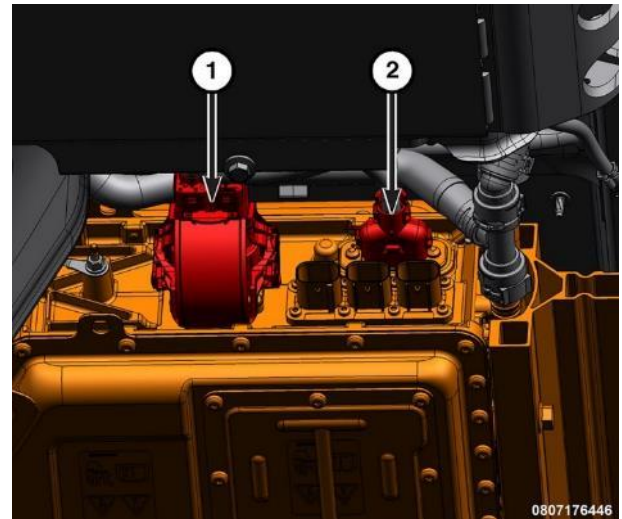

Figure 44 – HV Battery - Primary
- 26. Disconnect and install protective covers on the high voltage cable connector (Figure 44).
- 27. Disconnect and install protective covers on the low voltage wire harness connector (Figure 44).
64. Connect the high voltage cable connector to the primary battery (Figure 44).